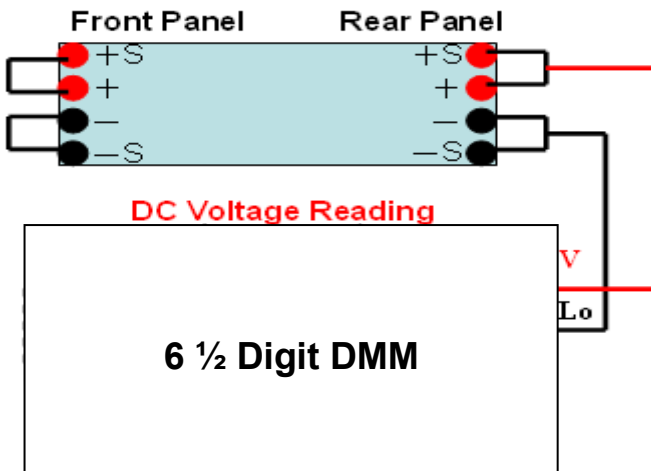

Figure 33- Voltage Calibration Setup
- Use the setup diagram shown in Figure 33 below for voltage calibration. Connect the rear output terminals of the power supply to the DMM.